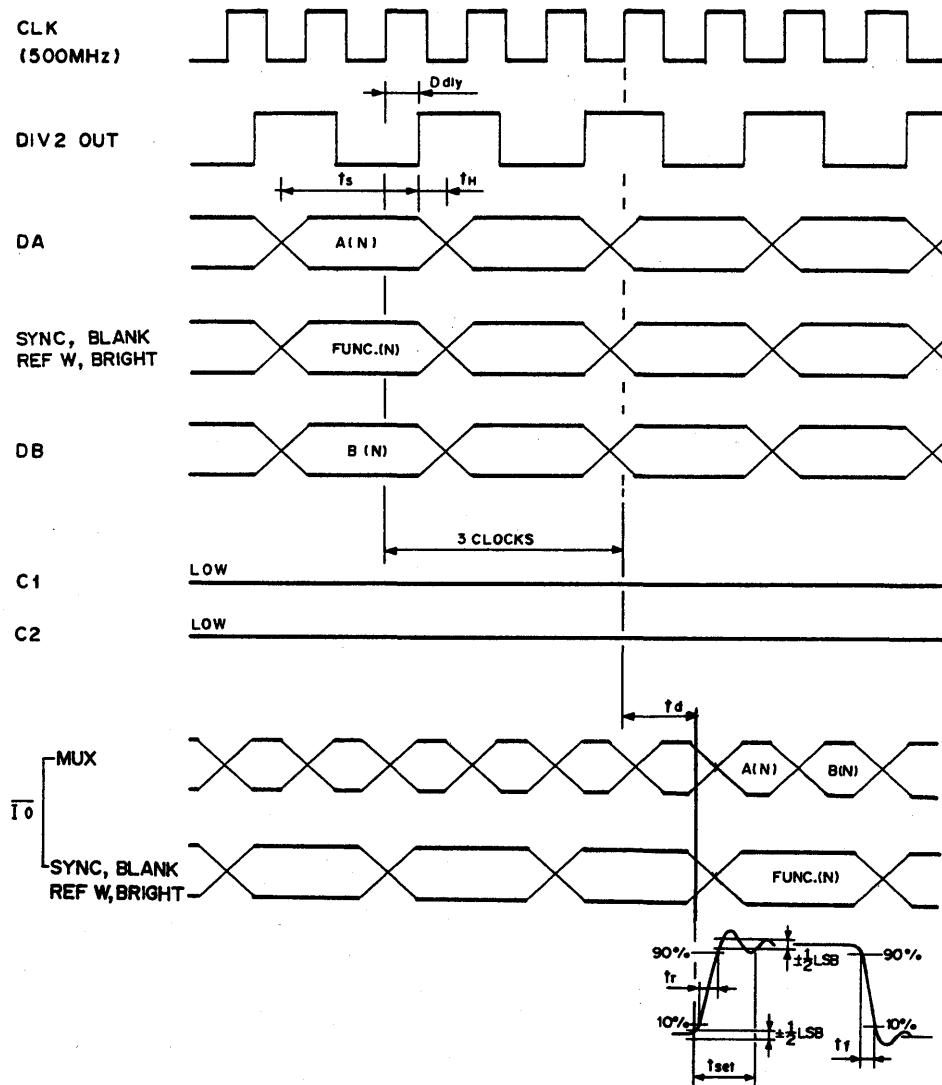
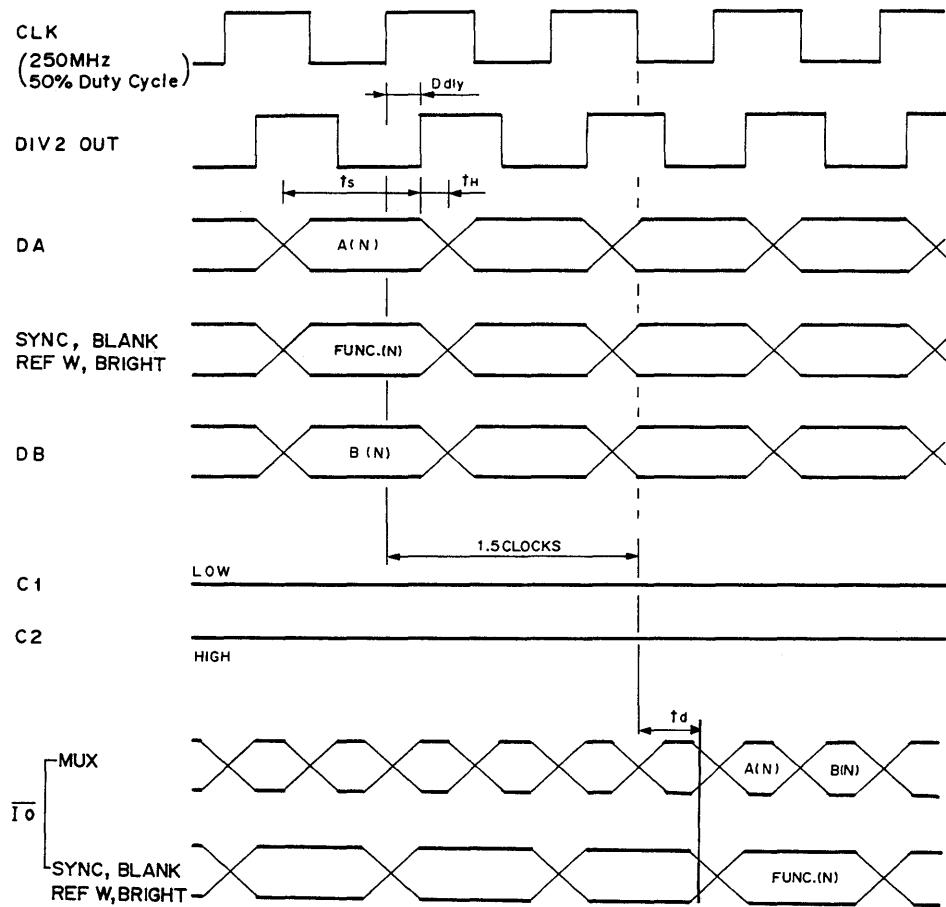
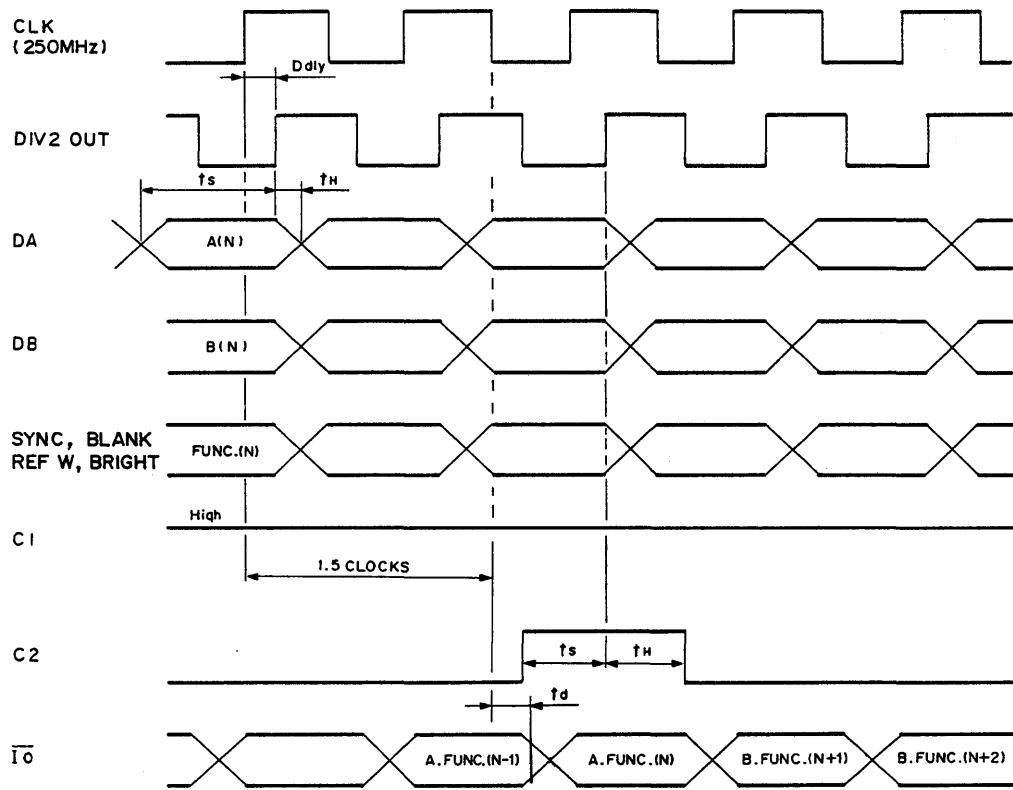

Fig. 2. Timing Diagram – MUX MODE (1)
Fig. 3. Timing Diagram – MUX MODE (2)
Fig. 4. Timing Diagram – SELECT MODE
DIV2OUT DIV2OUT	<p>Differential ECL compatible outputs.</p> <p>In case of "multiplex mode (1)", these output pins provide a clock output having half the speed of CLK and $\overline{\text{CLK}}$.</p> <p>When CLK and $\overline{\text{CLK}}$ are 500MHz, DIV2OUT and $\overline{\text{DIV2OUT}}$ are 250MHz. See Fig. 2. If DIV2OUT pin is connected with DIV2IN pin, as illustrated in Fig. 6, 500Mbit/sec analog data can be obtained.</p> <p>In case of "multiplex mode (2)", the frequency of DIV2OUT and $\overline{\text{DIV2OUT}}$ is the same as that of CLK and $\overline{\text{CLK}}$, as long as the CLK duty cycle is 50%. See Fig. 3.</p> <p>In case of "data select mode", the frequency of DIV2OUT and $\overline{\text{DIV2OUT}}$ is the same as that of CLK and $\overline{\text{CLK}}$. DIV2OUT pin need not be connected. See Fig. 4 and Fig. 6.</p> <p>DIV2OUT and $\overline{\text{DIV2OUT}}$ latch DA0 – DA7, DB0 – DB7, SYNC and BLANK input. (See Fig. 2, 3 and 4.)</p> <p>These signals can also be used for system clock to be provided to other peripheral portion of the system.</p>